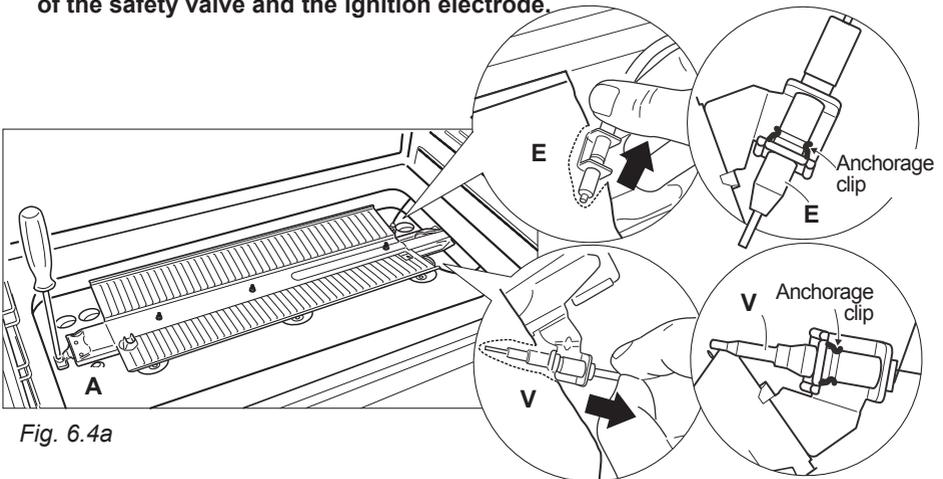

Fig. 6.4a
- Gently unlock, from the burner, the safety valve probe “V” and the ignition electrode “E” (as indicated in fig. 6.4a). Take care not to damage the probe and the ignition electrode.
- Unscrew and remove the burner securing screw “A” (fig. 6.4a).
IMPORTANT: Pay special attention to replace correctly the safety valve probe “V” and the ignition electrode “E” as per figure 6.4a. Check the correct operation of the safety valve and the ignition electrode.